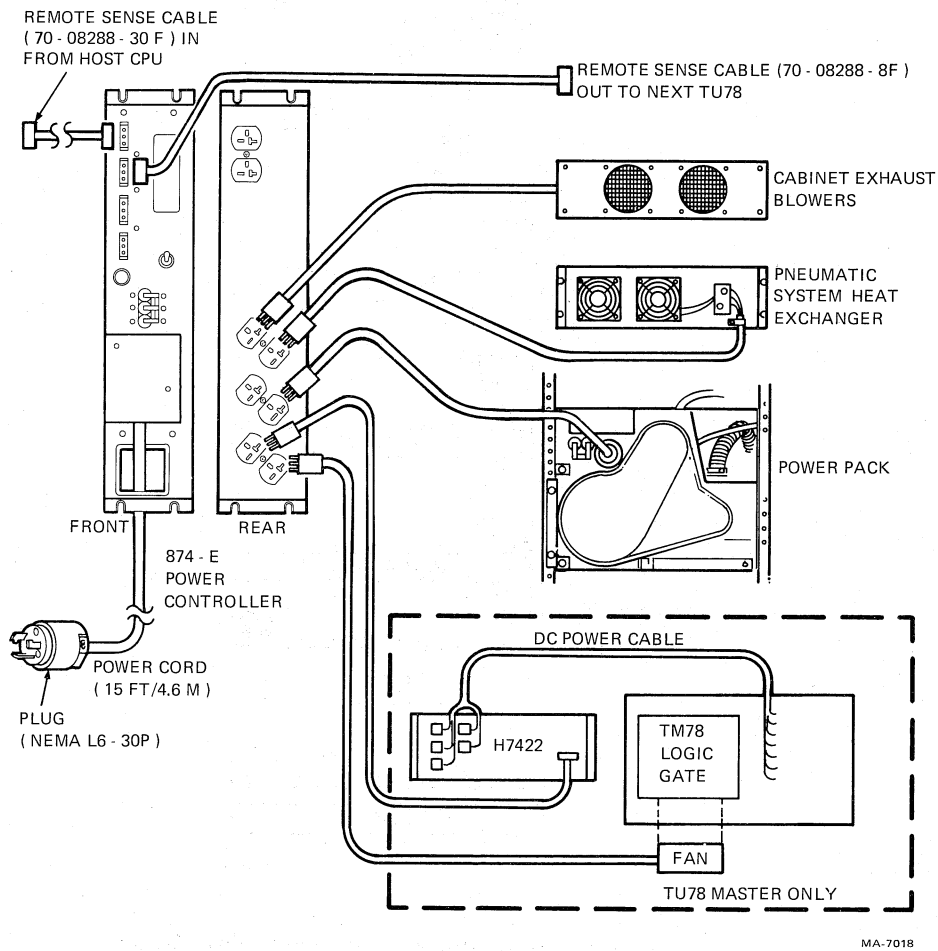

Figure 3-6 TU78 Power Distribution
Figure 3-6 shows the TU78 ac power distribution system. Refer to this figure while making the following checks.
- a. Power cable from 874-E power controller switched outlet to transport power pack (Figure 3-6).